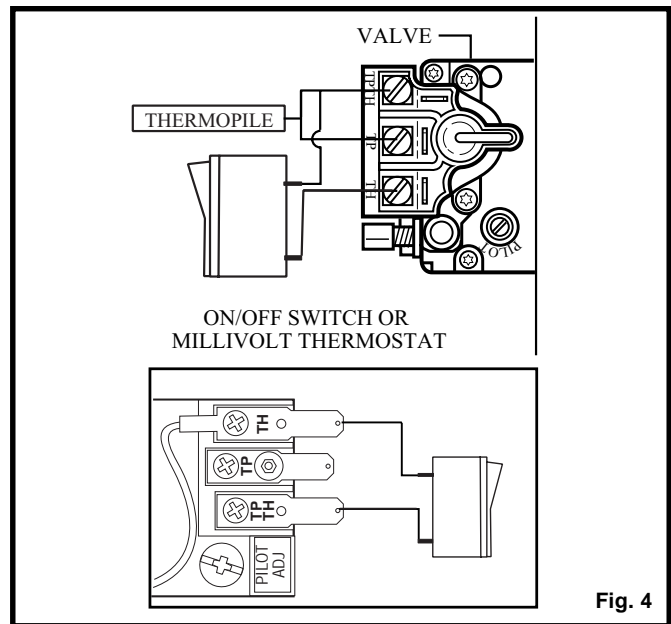

Fig. 4
3. Attach wiring under the clips on the rear casing (Fig. 5) and install wiring through the rear opening of the fireplace before connecting to the valve as shown in Fig. 4.